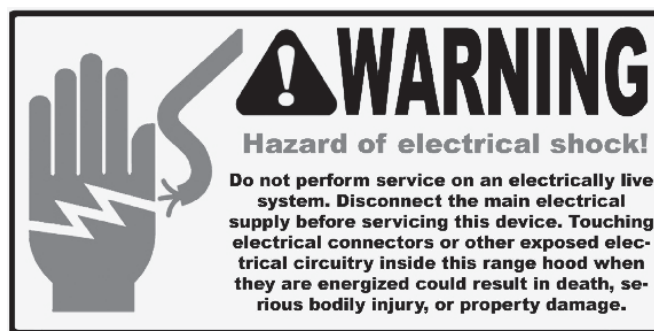

Figure 2
8. Remove the grease cup by sliding it sideways, see Figure 2 for location of the grease cup.